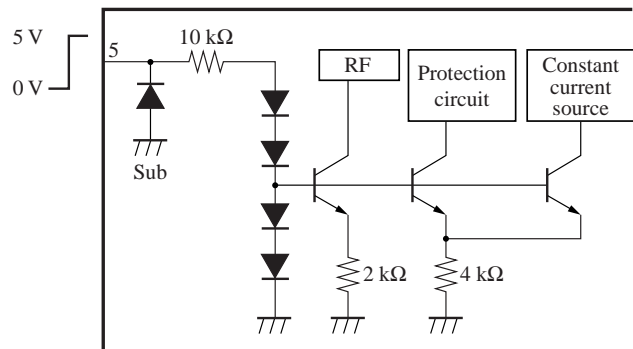

Figure 1
- (3) The internal circuit of standby terminal is as shown in Figure 1. When the standby terminal is high, the current approximately expressed by the following equation will flow into the circuit.